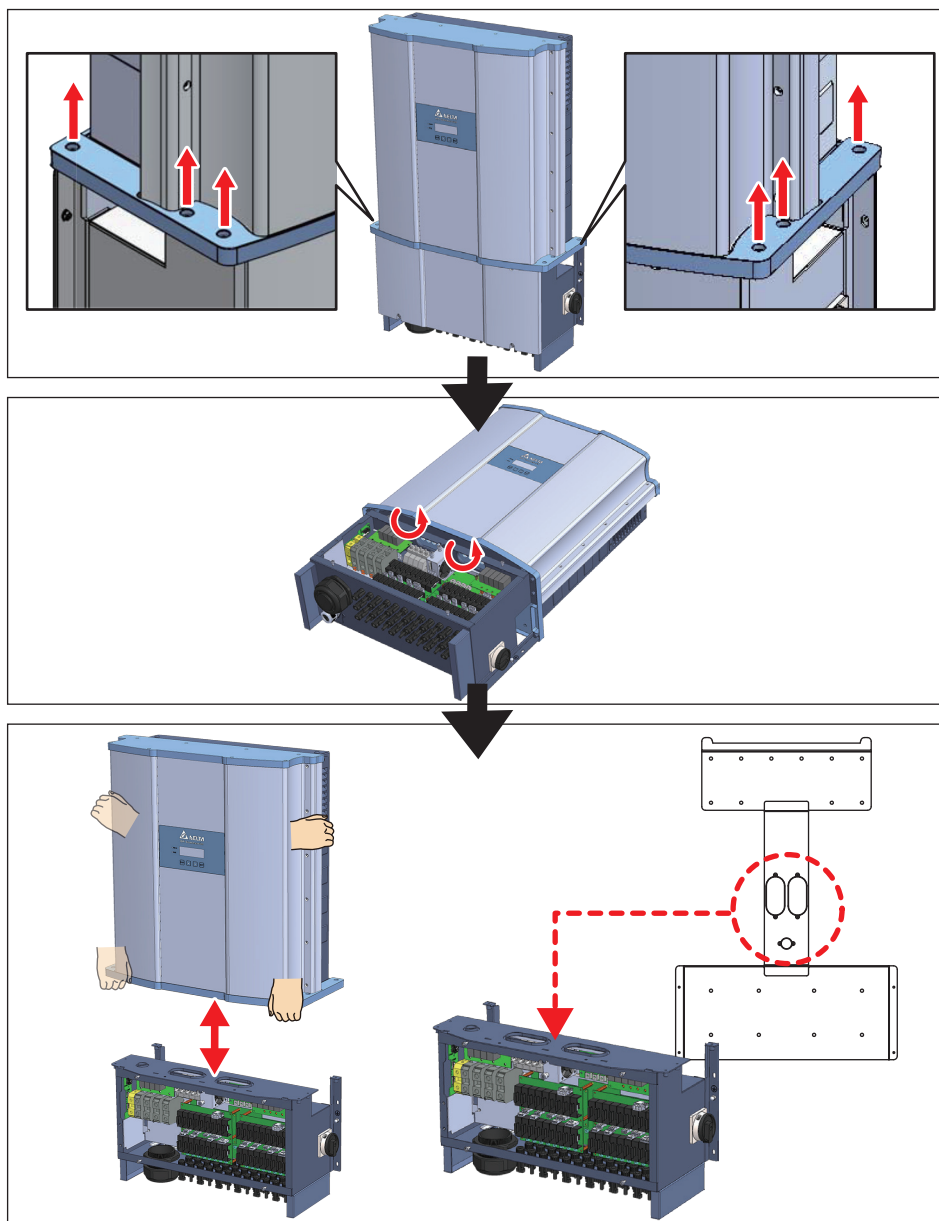

Figure 5-13 : Remove 8 screws and then separate WB from PM
7. Unscrew 8 screws and use hands to grip tightly to separate the wiring box compartment from the power module compartment as shown in **Figure 5-13**.